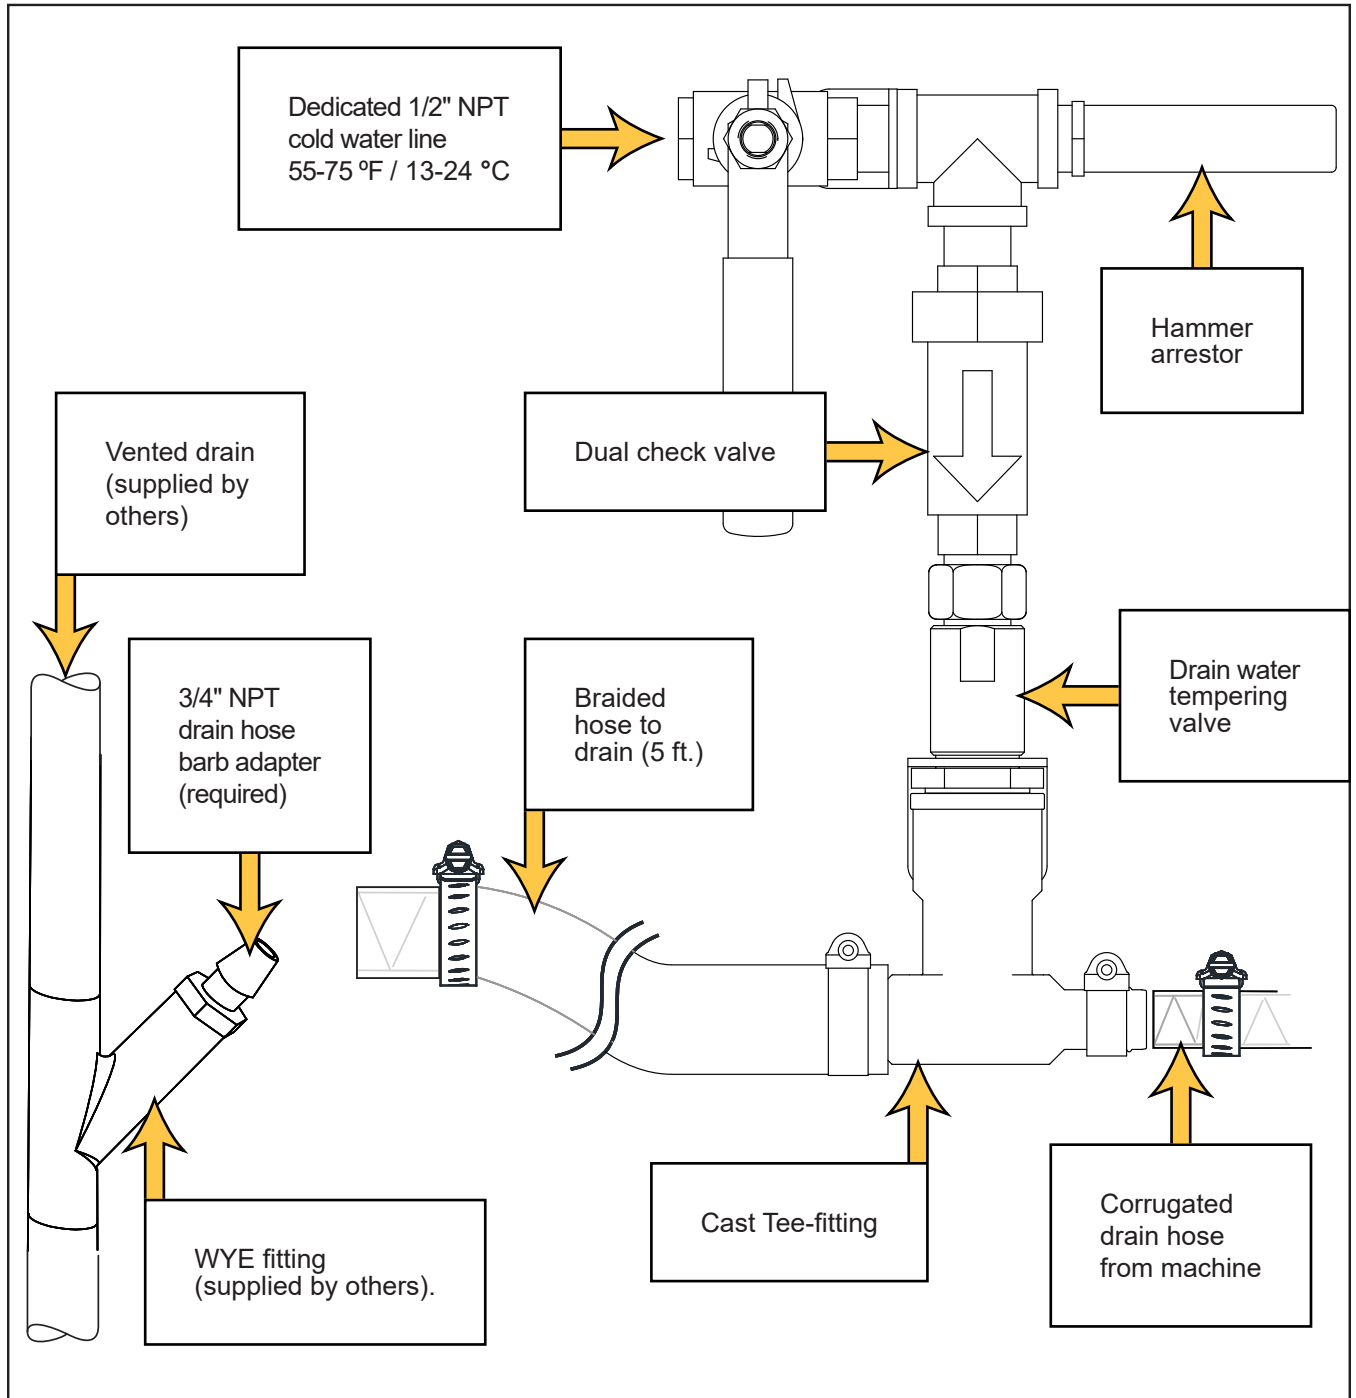

Fig. 24 - Drain Water Tempering Valve Assembly
- 2. Mount assembly (see Fig. 24) using wall bracket. (Fasteners supplied by others.)